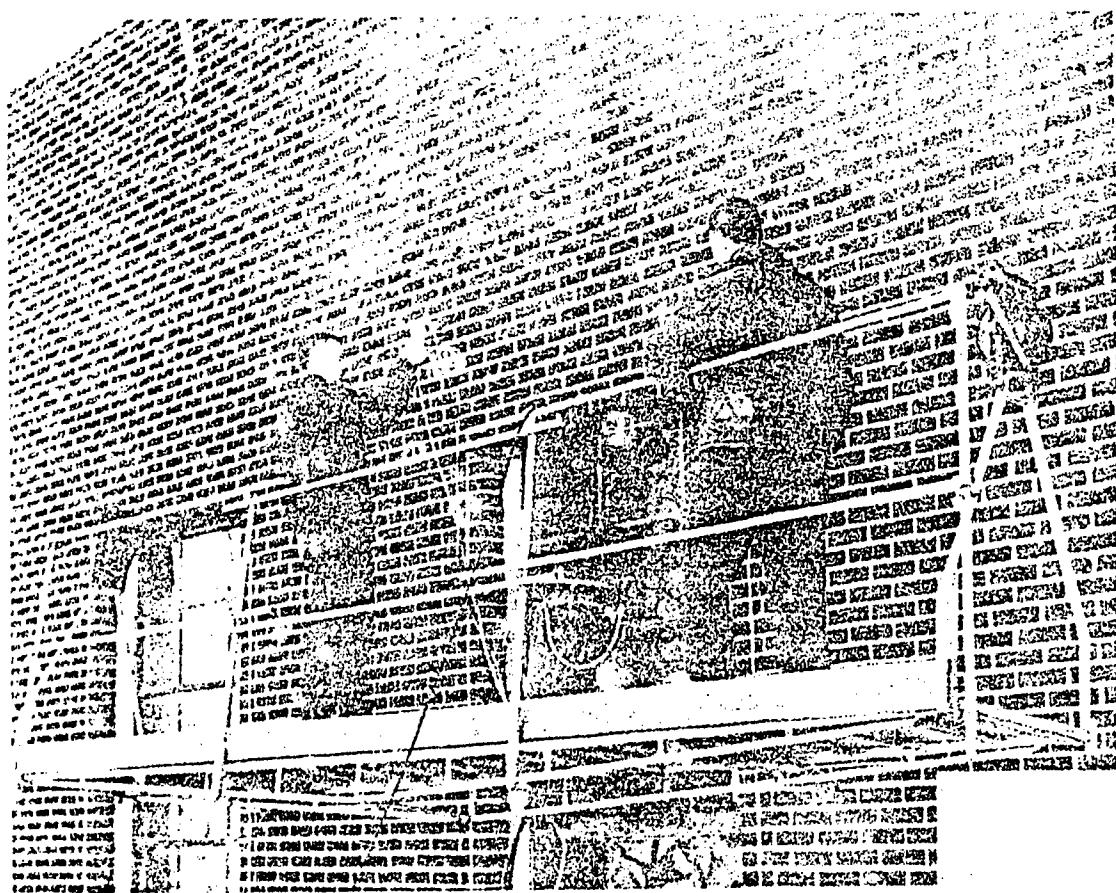

Figure 22. Swinging Scaffold Ladder Platform Type.
d. *Swinging Scaffolds, Swing Stages, Bosun Chairs. (See Figures 22 thru 24):*
(1) Always read instructions on the proper use and maintenance of the equipment. Follow prescribed load capacities.
(2) Stages should be at least 27 inches wide and supplied with guard rails (not rope).
(3) Only experienced personnel are to erect or operate stages. Check ropes and blocks before use by suspending stages one foot off the ground and loading at least 4 times the anticipated work load. Before locating on the job site, check for nearby electric power lines.